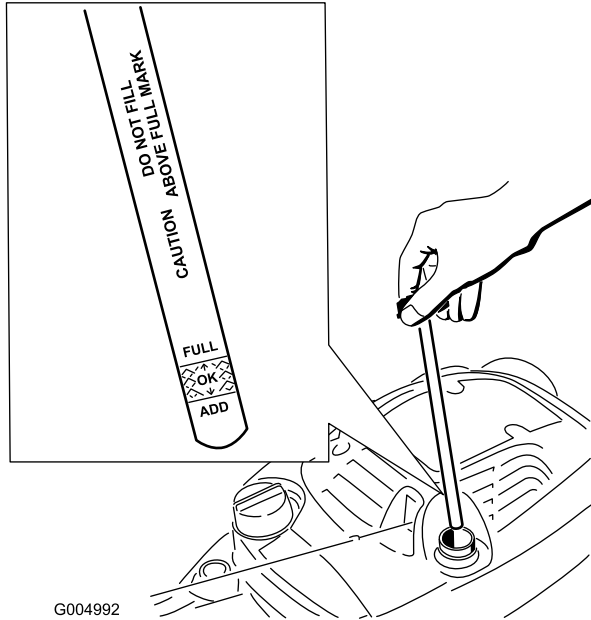

Figure 11
1. Remove the dipstick, wipe it clean, and fully install the dipstick (Figure 11).
2. Remove the dipstick and check the oil level (Figure 11). If the oil level is below the **Add** mark on the dipstick, **slowly** pour oil into the oil fill tube to raise the oil level to the **Full** mark on the dipstick. **Do not overfill.** (Max. fill: 20 oz., type: SAE 30W detergent oil with an API service classification of SF, SG, SH, SJ, SL, or higher.)